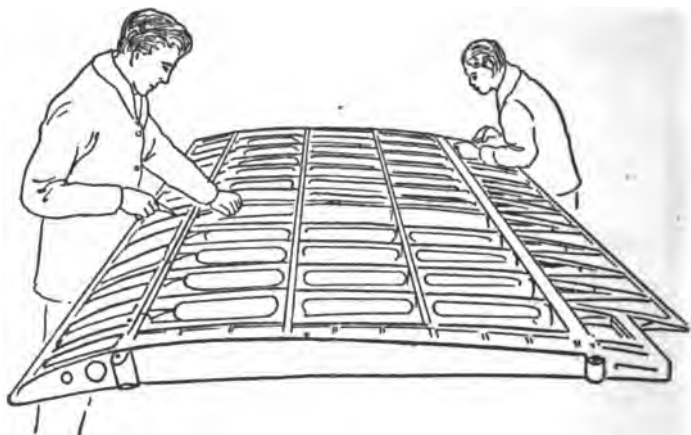

FIG. 20.—HOW THE MAIN PLANES ARE MADE
The *ribs* of the wings are usually made in one of two ways, and these are (1) by using a pair of ash slats fastened to the spars, as shown at A in Fig. 20 and
(2) a single piece of wood which is sometimes forced into a steel tube.